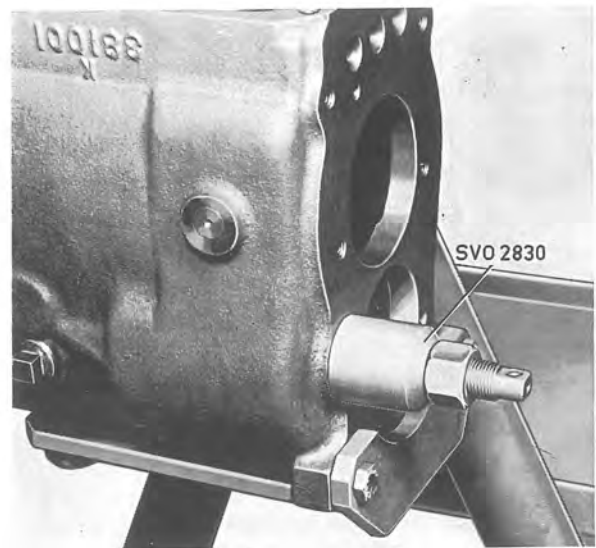

Fig. 4-23. Removing reverse shaft
10. Pull out the reversing shaft with puller SVO 2830, see Fig. 4-23, and remove the reverse gear.